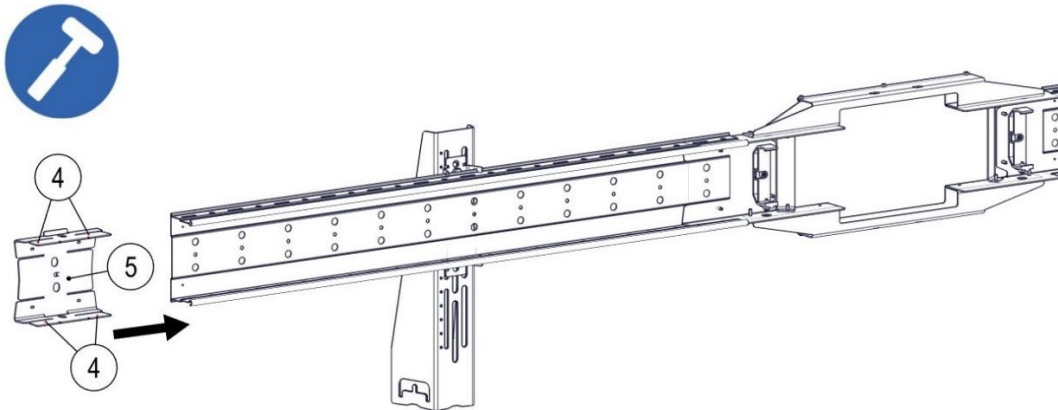

Fig. 28: Tap support profile connector (5) onto the support profile rail
- For the further installation of the ProShell support profile rails, first slide a support profile connector (5) onto the end of the ProShell support profile using a soft-faced hammer. Pay attention to the position of the connector tabs (4) (see Fig. 28).